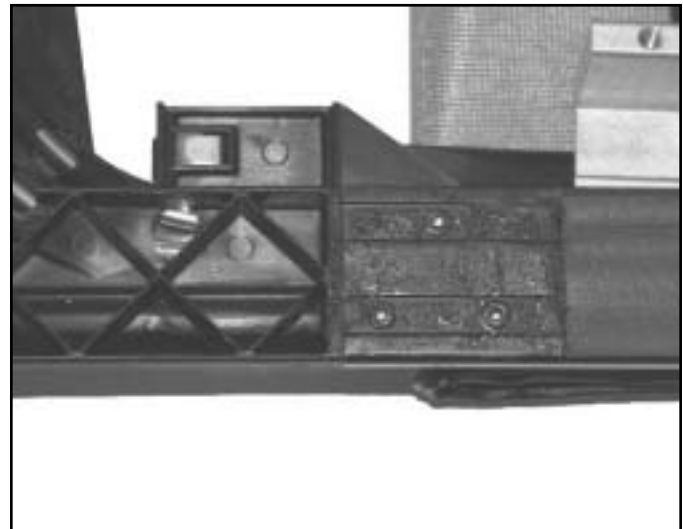

Figure S-72
7. Cut away the foam tape from the front rail to expose the track retainer rivets on both tracks. See figure S-72.